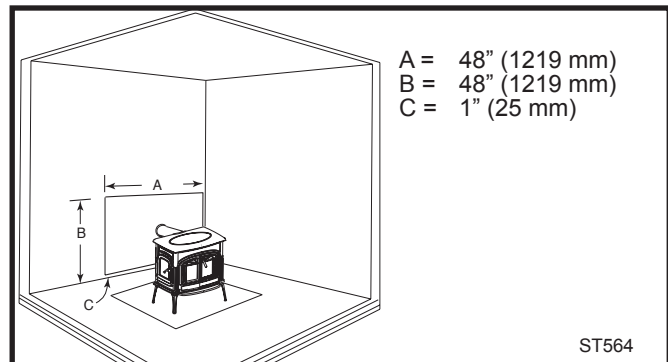

Fig. 18 Parallel installation, rear wall pass through, rear wall shield.
**Parallel installation with rear exit, rear wall pass-through, rear wall shield.** Fig. 18: Reduced clearances for rear wall. Shielding for connector is centered behind connector. Wall pass-through must comply with codes.